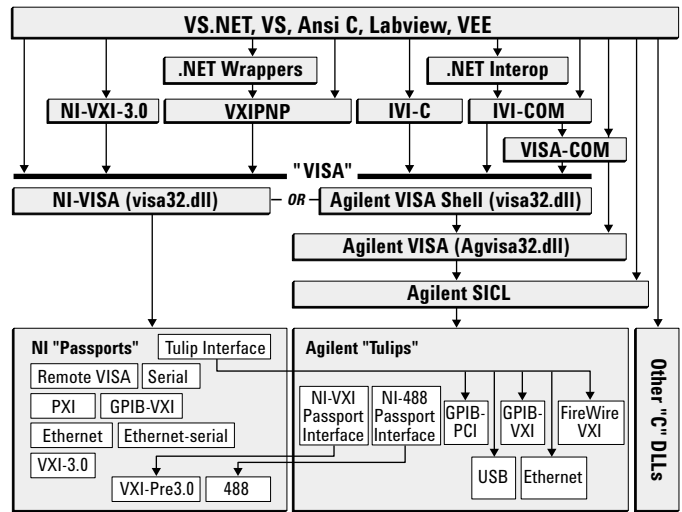

**Figure 1:** A 4-wire instrument bus is a useful way to route instruments to each other and to DUT pins
The number of measurements or stimulus that must be applied at the same time helps to determine the switching structure that must be used. Typically, a 4-wire bus is a good solution, as it allows the four terminals of a DMM to be connected to the DUT for 4-wire Ohms measurements. It is also seldom necessary to have more than two isolated instruments or three single-ended instruments active at once, since electronic modules usually contain built-in test routines that can be activated programmatically to allow tests on one function of the module at a time (called “DUT-Assisted Test”). **Figure 1** shows a switching structure of this type. A fifth bus is also sometimes desirable to allow four single-ended instruments to be used with a common ground. Note too that “rows” can be the vertical lines and “columns” the horizontal lines or vice versa. Matrices can be configured in a variety of ways. Relays are covered in more detail in the “Switching” section.
- 1. Create a diagnostic test plan.** If the system is designed with a relay matrix arrangement as shown in **Figure 1**, it is fairly easy to route stimulus signals to measurement devices, which verifies the relays, the cables and the instruments. It is worth the time to provide a way to run a good self-test on the system. This can help find problem areas that prevent the right signal from getting to the instrument, both during development and after a system is put into regular use.